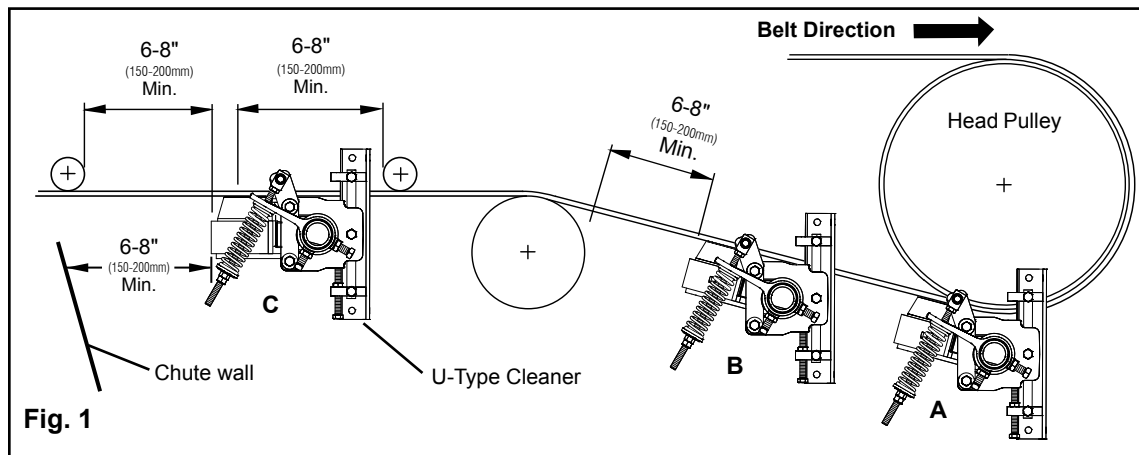

Fig. 1
STEP 1. Choose the position on the conveyor where the cleaner will be installed (Fig. 1).